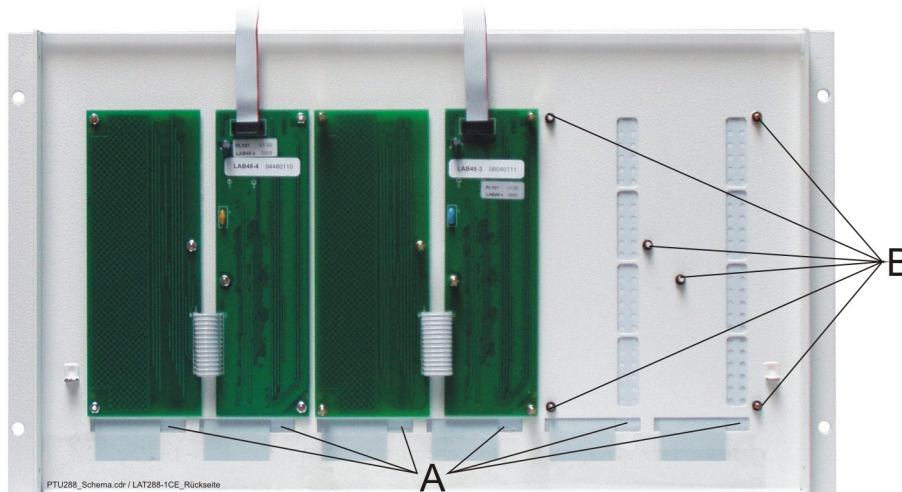

Fig. 8: Rear view of the LAT288-1CE with two installed LAB48-x's, without PTU mounting plate
- ◆ Slide the plastic spacer tubes, which are enclosed with the componentry, onto the 6 threaded pins at the rear of the front panel to which you want to mount the two halves of the LAB48-x (see detail B of Fig. 8 above).